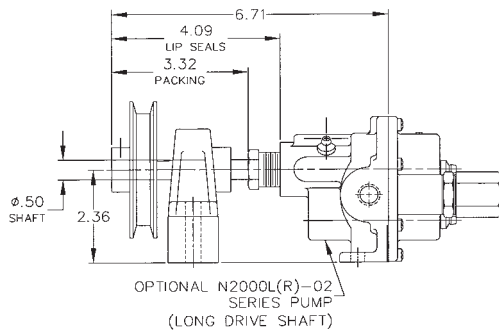

FIGURE 1
- 2) When space is an issue, use an optional "long shafted" pump and add a properly shimmed pillow block bearing (see figure 1).